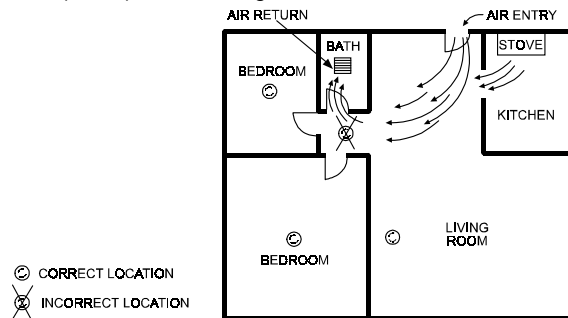

Figure 13. Recommended Smoke Detector Locations to Avoid Air Streams with Combustion Particles
- Do not mount smoke detectors in the path of fresh air intake. The flow of fresh air in and out can drive smoke away from the smoke detector; thus reducing its efficiency. Figure 13 indicates the correct and incorrect locations concerning this problem.